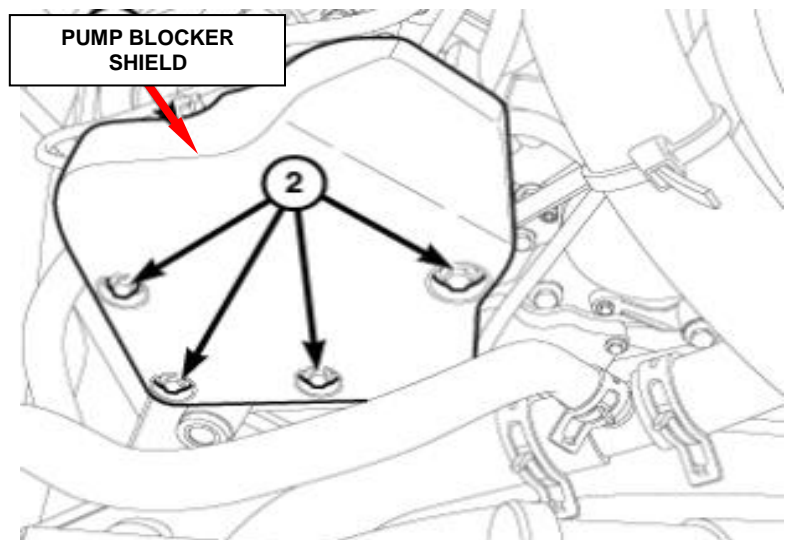

Figure 16 – Fuel Pump Blocker Shield
19. Remove the 4 bolts and the fuel injection pump blocker shield (Figure 16).
18. Install the fuel injection pump blocker shield and tighten the bolts to 25 N·m (18 ft. lbs.) (Figure 16.)